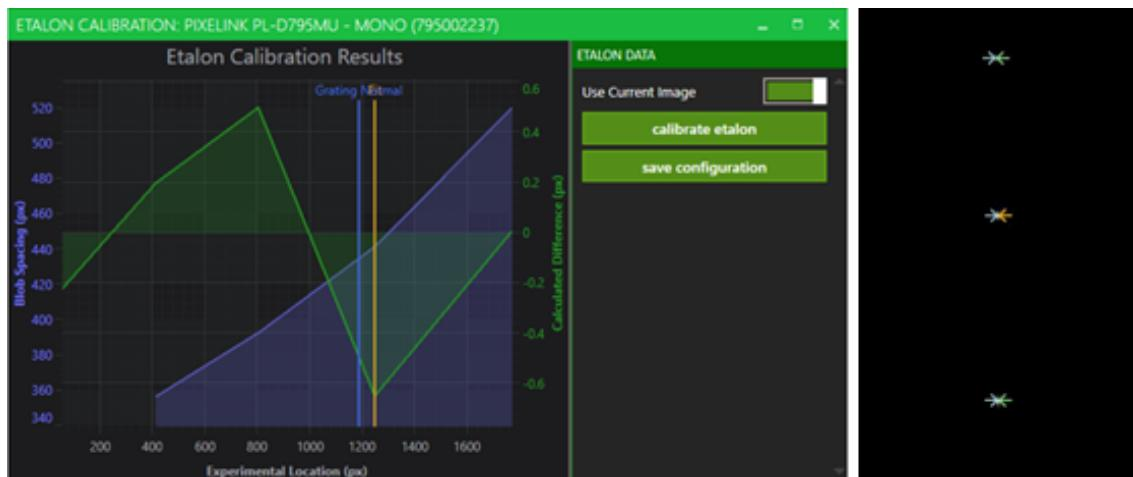

Figure 6-1 Screenshots after a successful Etalon Calibration using 5 blobs.
7. Click **Calibrate Etalon** and confirm that the wavelength value is correct. At this stage, the software examines each selected area in turn, and determines the (X, Y) pixel coordinates for the center of each blob (all pixels outside the selected rectangles are ignored). The software then compares these experimental positions with those predicted by the model, determines the difference between the experimental and predicted Y-positions, and then varies the model parameters to minimize the sum of (differences)². Once a good fit is obtained between the experimental blob positions and the predicted blob positions, the software reports the results in both graphical and numerical form. Figure 6-1 shows typical screenshots after a successful **Etalon Calibration**.
As indicated by the right-hand vertical axis of the graph in Figure 6-1, note that the maximum deviation between the predicted and the experimental blob positions is <30% of the vertical extent of the blobs. The cursors on the graph show where the normal to the grating intersects the sensor (blue cursor), and the position of the closest blob that is used as the reference for the unwrapping process (orange cursor). In the right image of Figure 6-1, the overlay “Etalon Peaks (V)” illustrates the blob centroids and the fit to three of the blobs in the Camera Window. The blob with the maximum deviation from the predicted position is indicated by the orange arrow.